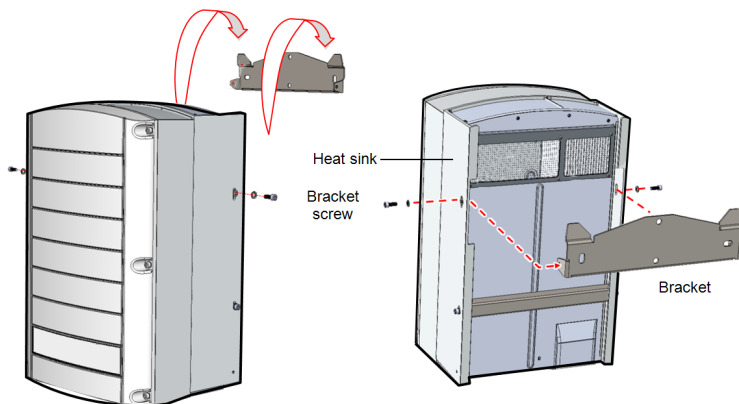

Figure 13: Hanging the Synergy Unit
- For the right or left Synergy Units, insert only one screw through the outer (exposed) side of the unit and into the bracket. Tighten the screws with a torque of 4.0 N\*m (see *Figure 13*).